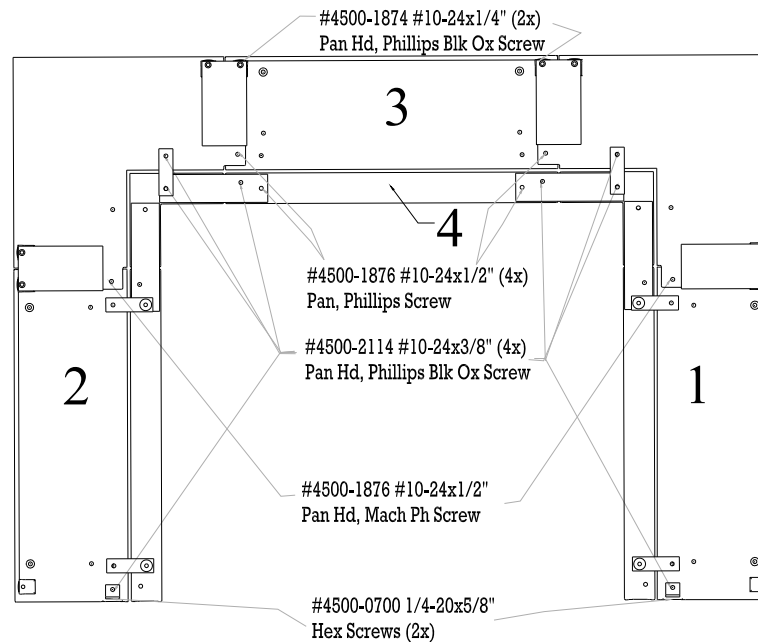

Figure 4 Clydesdale Surround Assembly
USE FIGURE 4 AS A REFERENCE, WHEN ASSEMBLING THE SURROUND
1. Position the *Center Top Inner and Outer Sections* (3+4) of the surround into position as illustrated in Figure 4. Secure them to the top
panel using the fasteners provide in the zip lock bag – proper placement of the screws is called out in Figure 4